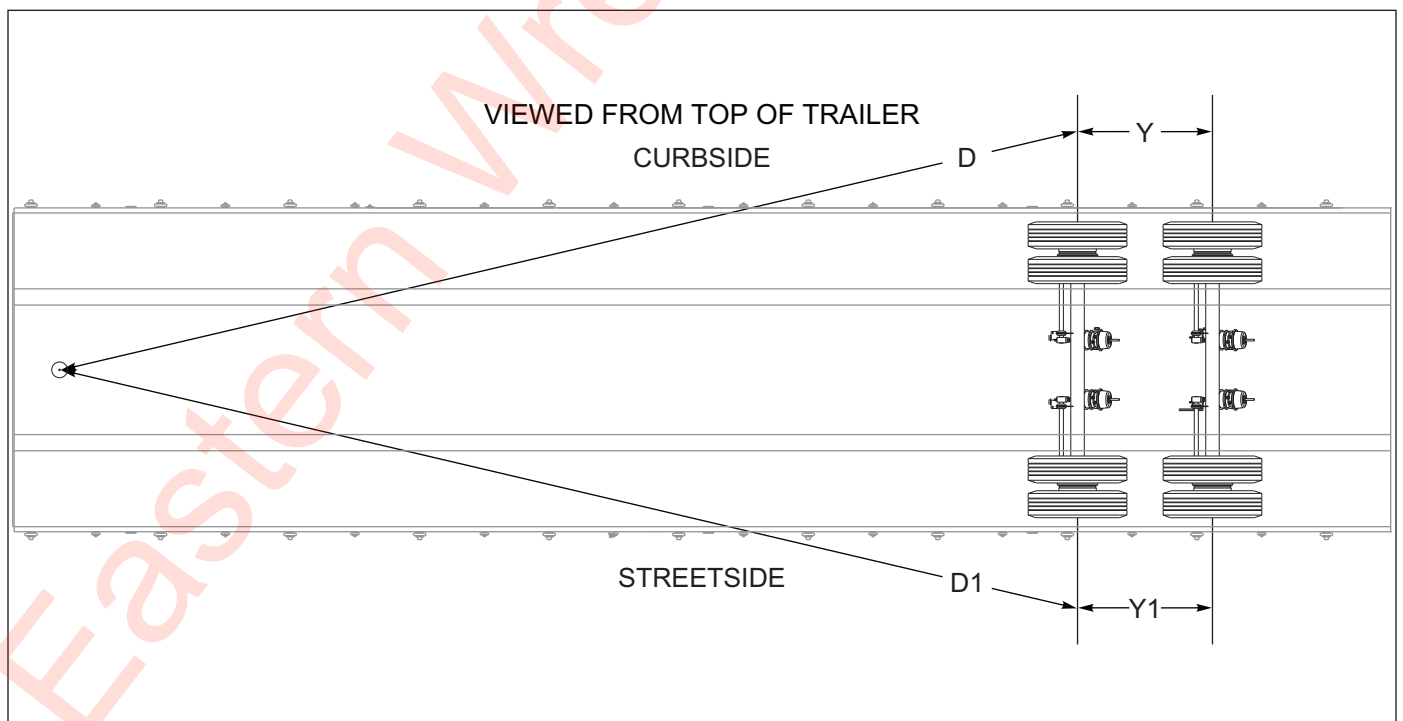

Figure 4-12: Checking Axle Alignment
4. Measure **Curbside (D)** from the plumb bob to the center point of the front curbside axle. Record this measurement (*See Figure 4-12.*)
5. Measure **Streetside (D1)** to the center point of the front streetside axle the same manner as in *step 4*. Record this measurement (*See Figure 4-12.*)
6. Set **Curbside (D)** about 1/8” shorter than **Streetside (D1)** to insure proper trailer tracking on slope of road.